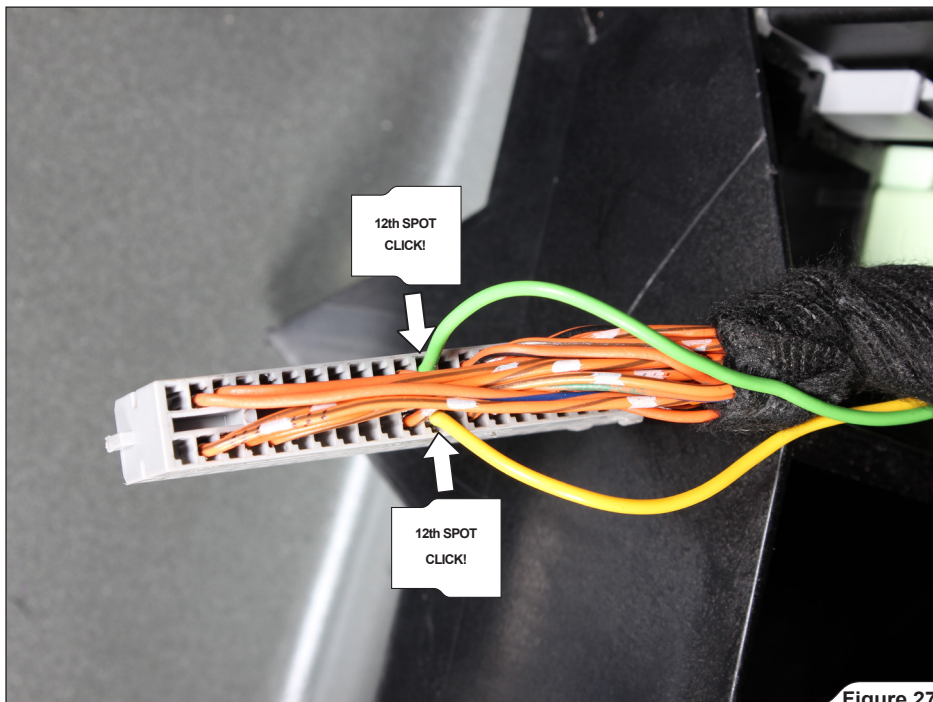

Figure 27
- ! **IMPORTANT:** make sure, that you plug in the wires, as follows (Figure 27):